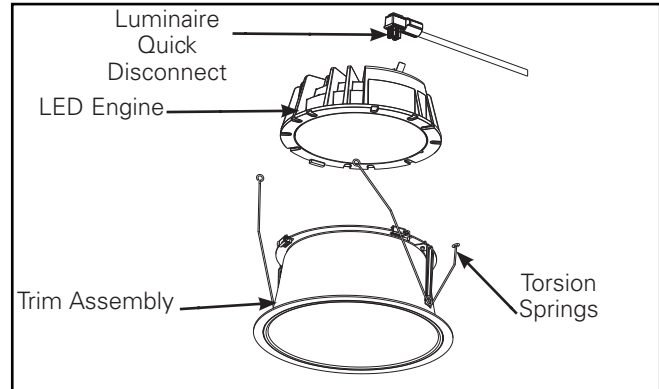

Figure 33
- Place end of flexible conduit through frame opening in ceiling exposing upper portion of quick disconnect (Figure 33).